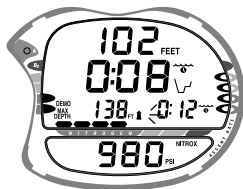

Fig. 83 - Ascent set for 1 fps
- Pressing and holding the Advance (Front) button for 2 seconds will access an **Ascent Rate** of **1 fps**. The green and yellow segments of the VARI and **UP Arrow** will appear with the Arrow flashing (Fig. 83).